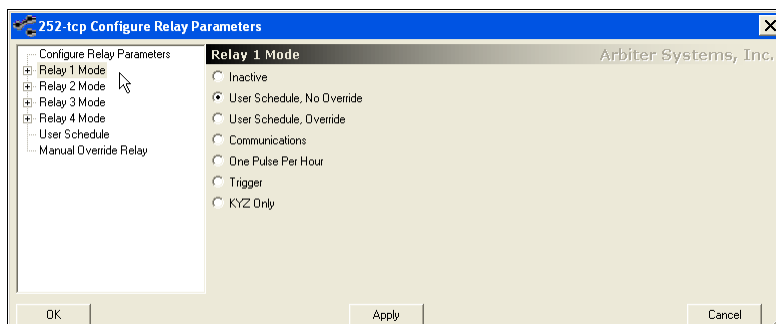

Figure 7.16: Configure Relay Parameters
To open the Configure Relays window, click the Configure Relays button or select Connection > Configure > Relay Parameters. Select one of the four Relays to select the mode. In Figure 7.16, Relay 1 Mode is selected as “User Schedule, No Override.”
1. Select Pulse Per Hour mode by first selecting the relay and checking “One Pulse Per Hour” in the right panel. See Figure 7.16